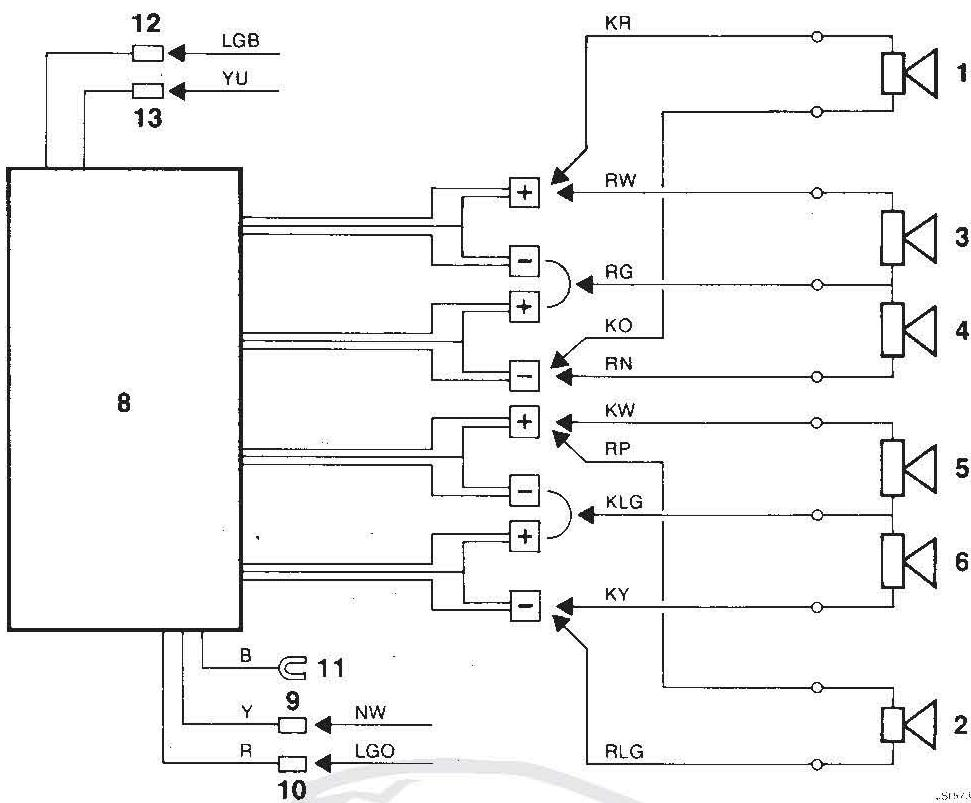

FIG 5.
Key to Fig 5
1. Using a resistance meter probe the connections on the radio/cassette player between each speaker cable pair to find the two cables, one from each pair which are internally connected. Either of these two cables can then act as the vehicle loudspeaker system common return (Fig 5 colour codes RG and KLG).
4. Connect the speaker cables as shown in Fig 5, using suitable connections.
5. Connect the bass speaker cables across the full output of the amplifier as shown in Fig 5, using suitable connections.
6. Using suitable connections connect the power and earth leads as shown in Fig 5.
4. Using suitable connections connect the power and earth leads as shown in Fig 5.